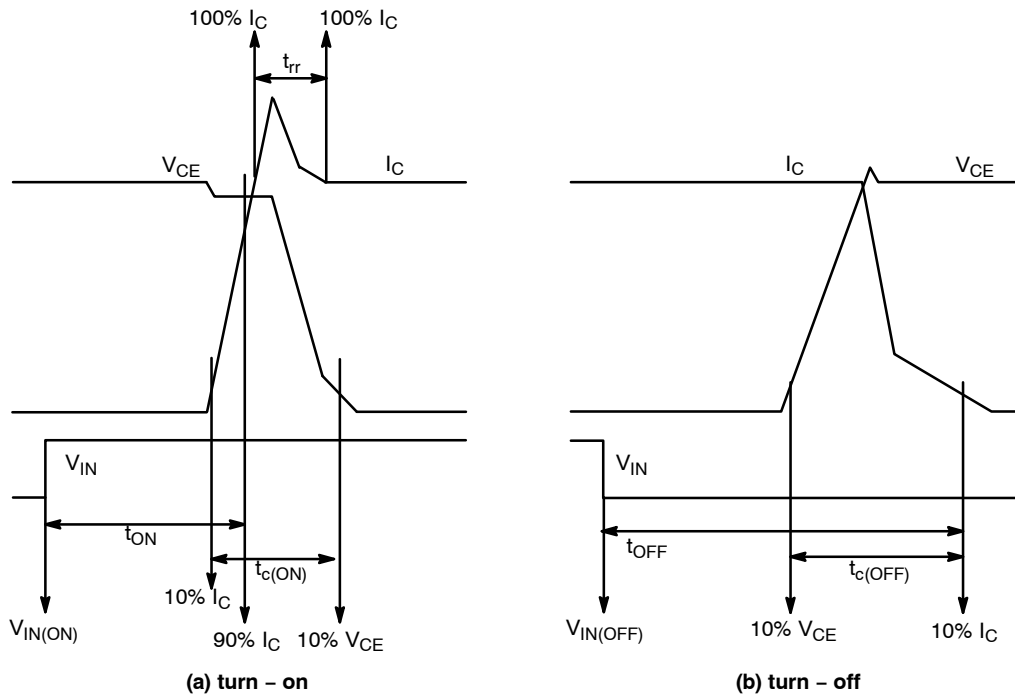

Figure 3. Switching Time Definition
7. t_{ON} and t_{OFF} include the propagation delay time of the internal drive IC. $t_{C(ON)}$ and $t_{C(OFF)}$ are the switching time of IGBT itself under the given gate driving condition internally. For the detailed information see Figure 3.